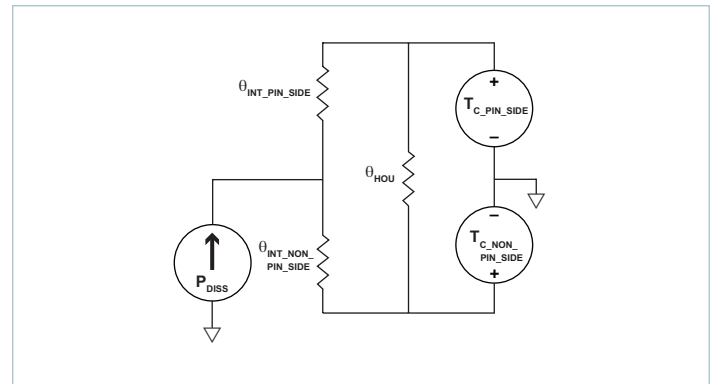
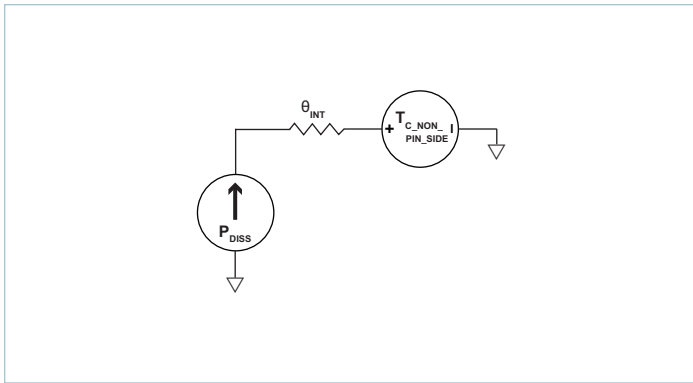

Figure 22 — Double-sided cooling thermal model
Figure 23 — Single-sided cooling thermal model
The VIA package provides effective conduction cooling from either of the two module surfaces. Heat may be removed from the pin-side surface, the non-pin-side surface or both. The extent to which these two surfaces are cooled is a key component for determining the maximum power that can be processed by a NBM, as can be seen from the specified thermal operating area in Figure 1. Since the NBM has a maximum internal temperature rating, it is necessary to estimate this temperature based on a system-level thermal solution. For this purpose, it is helpful to simplify the thermal solution into a roughly equivalent circuit where power dissipation is modeled as a current source, isothermal surface temperatures are represented as voltage sources and the thermal resistances are represented as resistors. Figure 22 shows the “thermal circuit” for the NBM in a VIA package.
- **Single-side cooling:** the model of Figure 22 can be simplified by calculating the parallel resistor network and using one simple thermal resistance number and the internal power dissipation curves; an example for non-pin-side cooling only is shown in Figure 23.